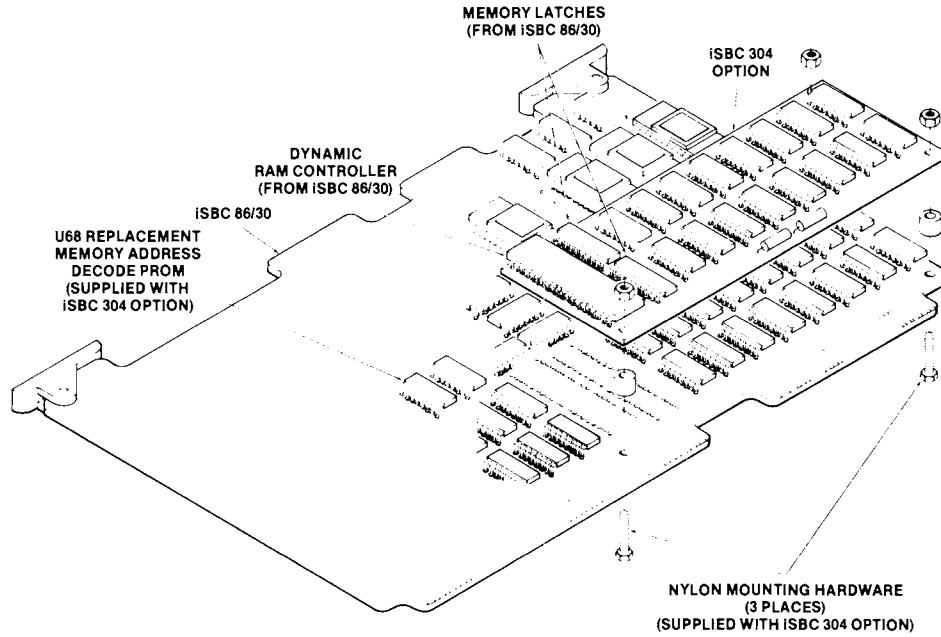

Figure B-1. ISBC™ 304 RAM Expansion Multimodule Board Orientation
6. Insert the iSBC 304 board mating pins into socket U72 and other mating pins, orienting the board as shown in Figure B-1.
8. Place nylon spacer between the iSBC 86/30 board and the iSBC 304 board at one of the holes shown in Figure B-1.